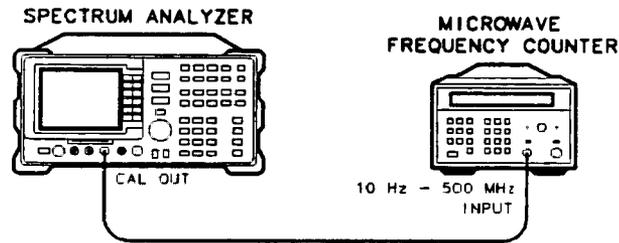

Figure 4-14. Calibrator Frequency Accuracy Test Setup
14. Connect the equipment as shown in Figure 4-14.